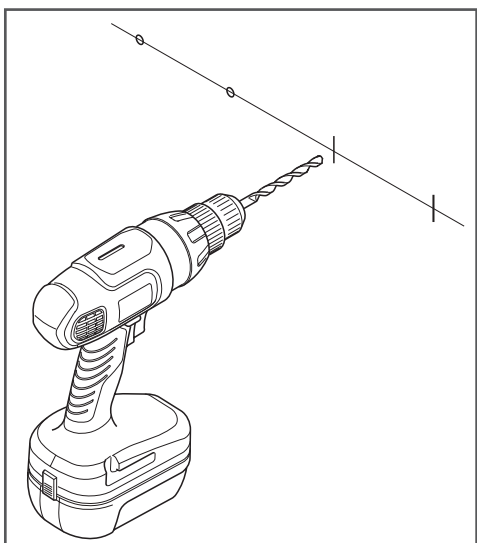

Figure 3
6. Drill out the marked holes using a drill with a 1/4" drill bit (Figure 3).